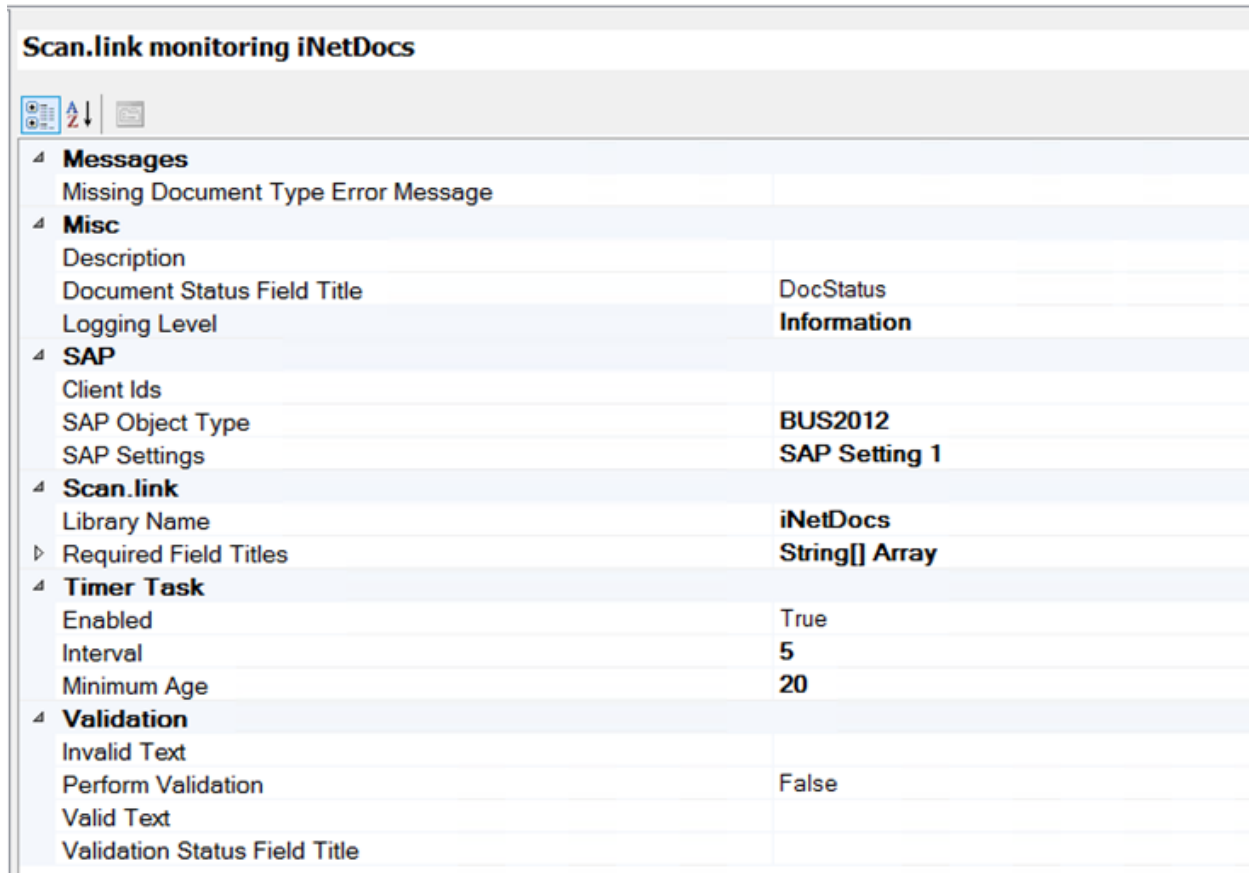

Figure 13-1 Example Configuration for Scan.link Instance
4. Complete the information in the right pane. The example in Figure 13-1 includes the critical parameters. Table 13-1 describes all the fields.
2. In the main Scan.link configuration pane (see Figure 13-1 and Table 13-1), set the **Validation** fields as follows: